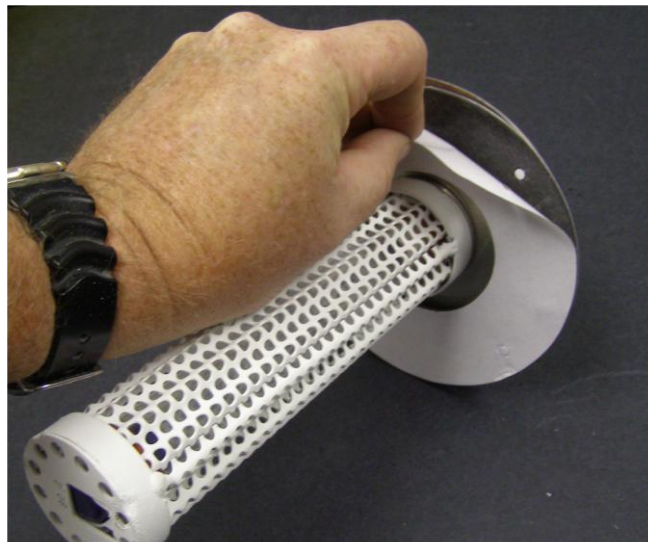

Figure 4
- Secure the mounting plate to the air duct by first peeling the paper backing off the self-adhesive sealing ring affixed to the back side of the mounting plate (be sure the mating area of the duct surface is clean and dry), refer to Figure 4.